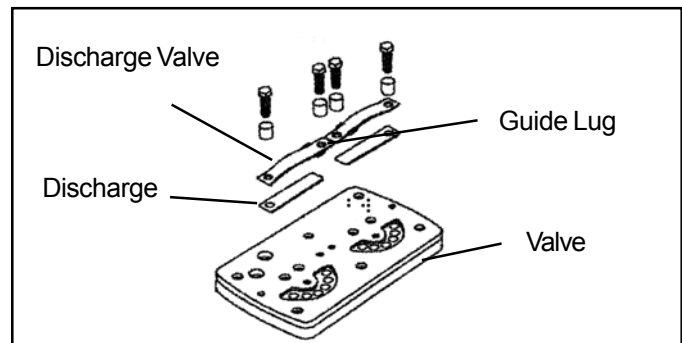

FIGURE 11 - DISCHARGE VALVE INSTALLATION
1. Locate and place one of the two discharge valves (12) on the valve body assembly with its bolt hole corresponding with the threaded hole on the outside edge of the valve body assembly. When correctly placed, the discharge valve (12) will cover the two discharge holes in the valve body assembly. Refer to Figure 11.
2. Locate one of the two discharge valve holders (11) and install it over the discharge valve (12) so that the free end of the discharge valve (12) is contained between the two guide lugs on the sides of the holder. Refer to Figure 11.
3. Insert one of the four 10mm x 25mm bolts (9) through a spacer sleeve (10). Using the bolt and sleeve, loosely secure one end of the discharge valve (12) and holder (11) to the valve body assembly. Insert a second 10mm x 25mm bolts (9) through a spacer sleeve (10) and loosely secure the other end of the discharge valve (12) and holder (11) to the valve body assembly. Before attempting to tighten the two 10mm bolts make
4. Locate one of the sliding inlet valves (13) and place it on a flat surface. Note that there is a concave and convex side in the surface where the small pivot arm stud hole is located. Refer to figure 11.